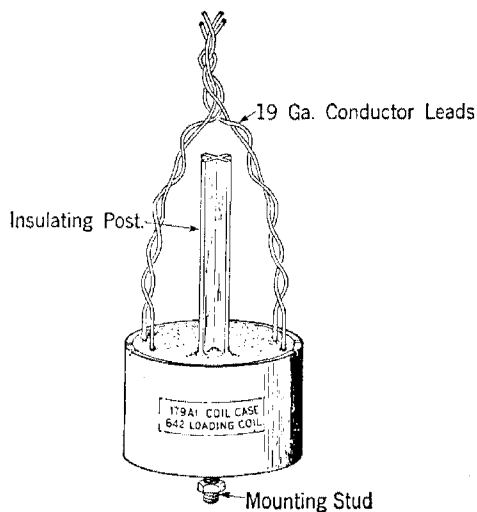

Fig. 1
1.02 The 179A1 Coil Case consists of one 642 Loading Coil in a plastic container filled with an epoxy resin. The terminals of the coil are 19 gauge copper conductors which provide electrical connection to the D Underground Wire conductors only. The mechanical mounting is provided by means of the mounting stud and nut in the bottom of the case. The case is illustrated in Fig. 1.